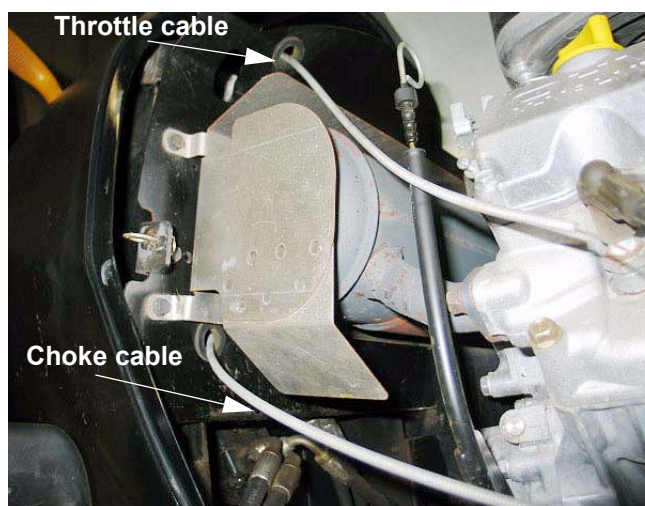

Figure 1.24
1.24. The choke cable then passes through the grommeted hole at the lower right corner of the lower heat shield. See Figure 1.24.